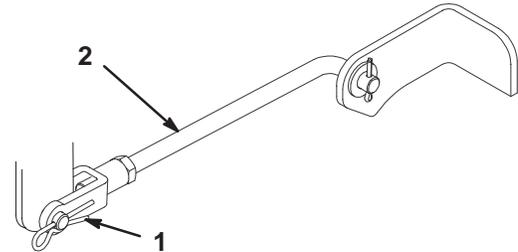

Figure 45
- Remove the hairpin cotter and clevis pin from the front trunion yokes (Fig. 45).
6. Attach the front trunion rods to the tractor with the clevis pins and hairpin cotters (Fig. 45).